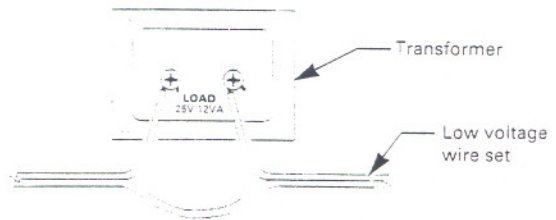

FIG. 19
4. Connect the newly stripped ends to the transformer low voltage **LOAD** terminals. (Fig.19)